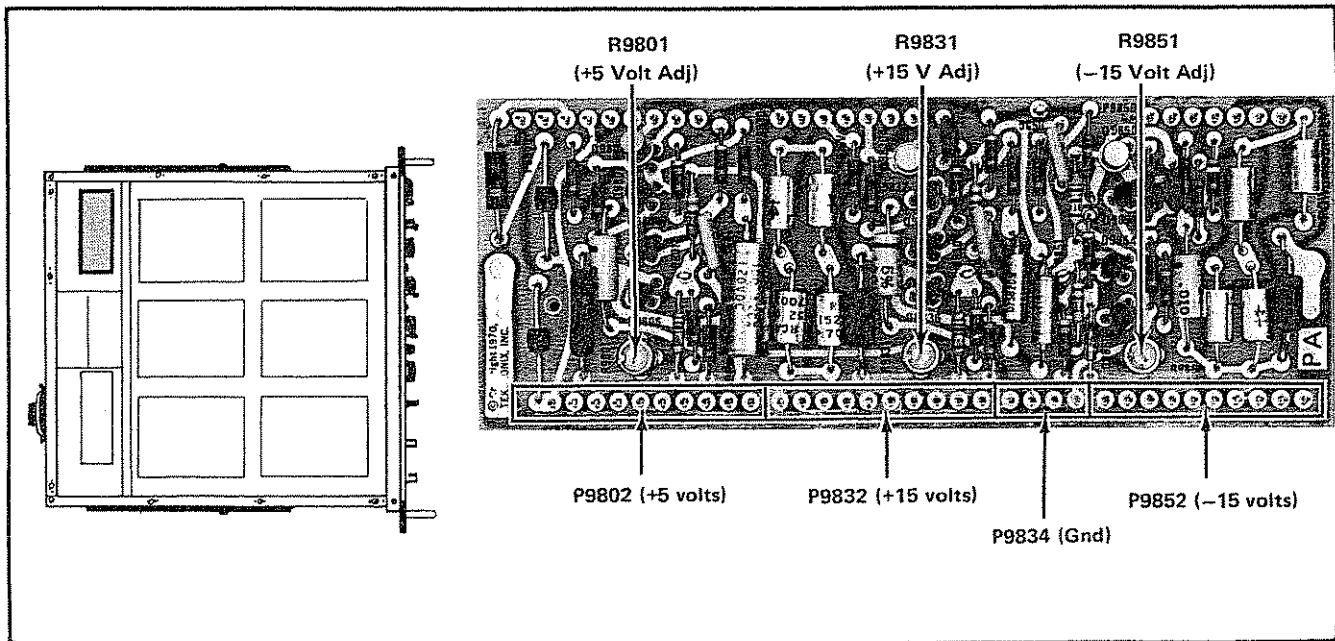

Fig. 4-5. Power Supply test point and adjustment locations.
a. Connect a precision dc voltmeter between chassis ground (pin 1 of P9834) and P9852 (−15 V), see Fig. 4-5.